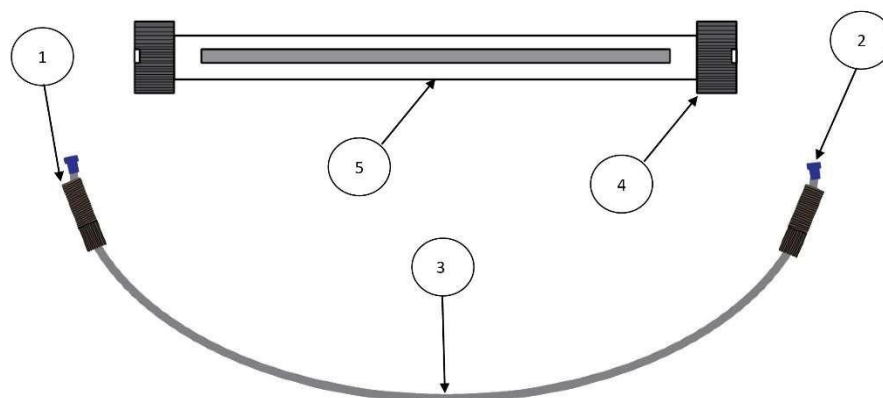
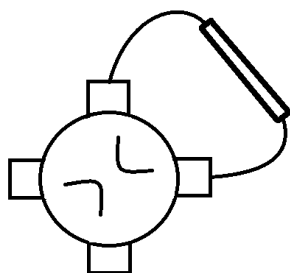

Figure 1. Cadmium column components
Figure 2. Cadmium column offline
The cadmium column for nitrate determination is used in nitrate analysis for reducing nitrate to nitrite. Figure 1 shows the cadmium column and column tubing assembly. We recommend always using a switching valve with your cadmium column, in order to isolate the column from unbuffered solutions and extend its lifetime. Figures 2 and 3 show the use of a switching valve.
4-Way Manual Switching Valve (figures 2 and 3)	24049
6. With cadmium column off (figure 2), turn on pump, fill system with reagents, turn off pump.